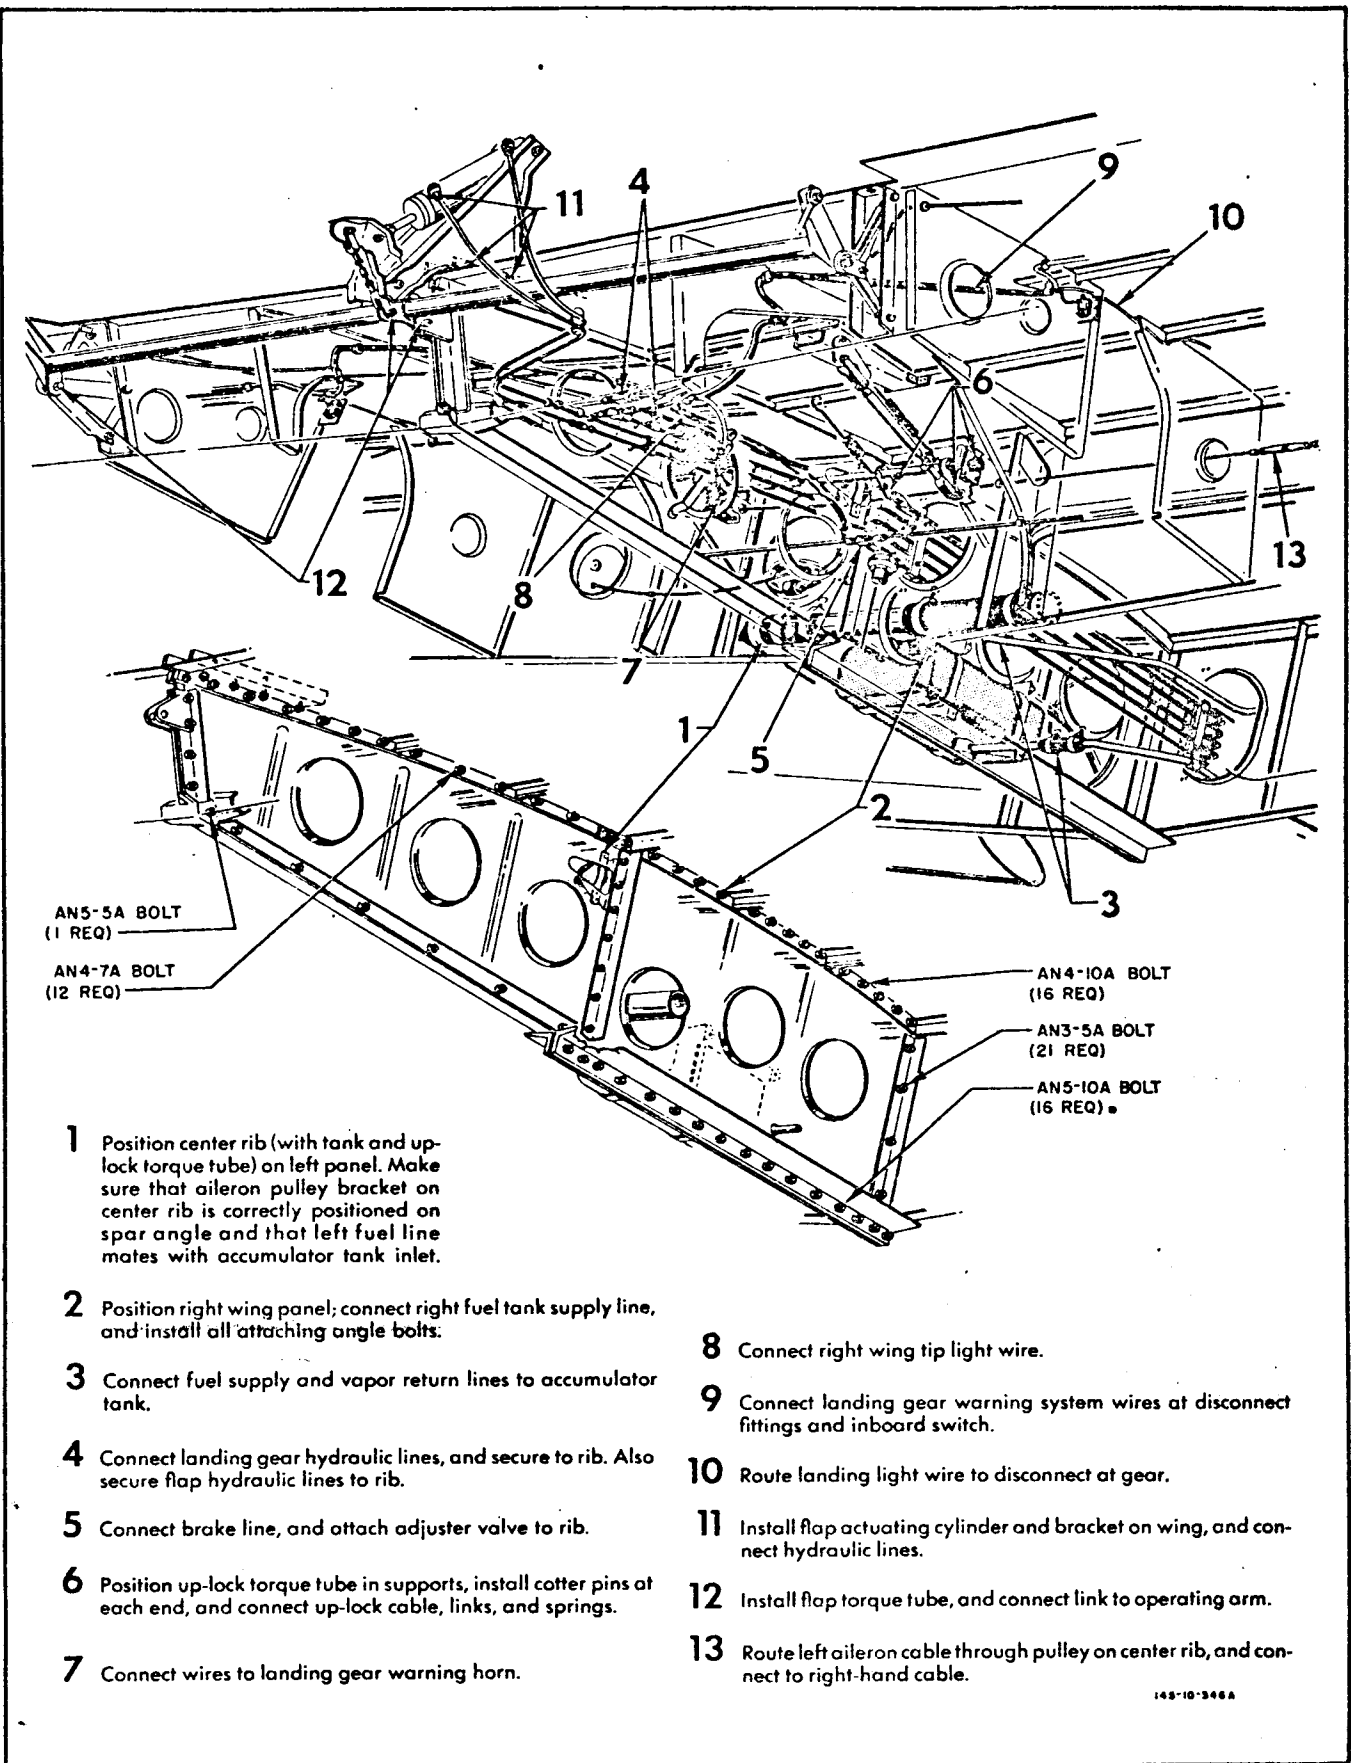

Figure 14 - SEPARATING AND JOINING WING PANELS
**Separating and Joining Wing Panels**—See figure 14.